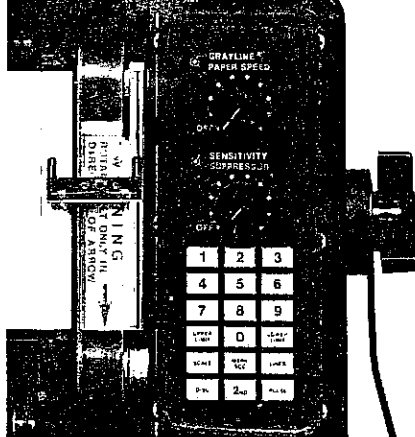

Figure 23
2. Release both catches on the top of the case. Pull out and down on the top of the case front to expose the platen assembly. (See Figure 23.)